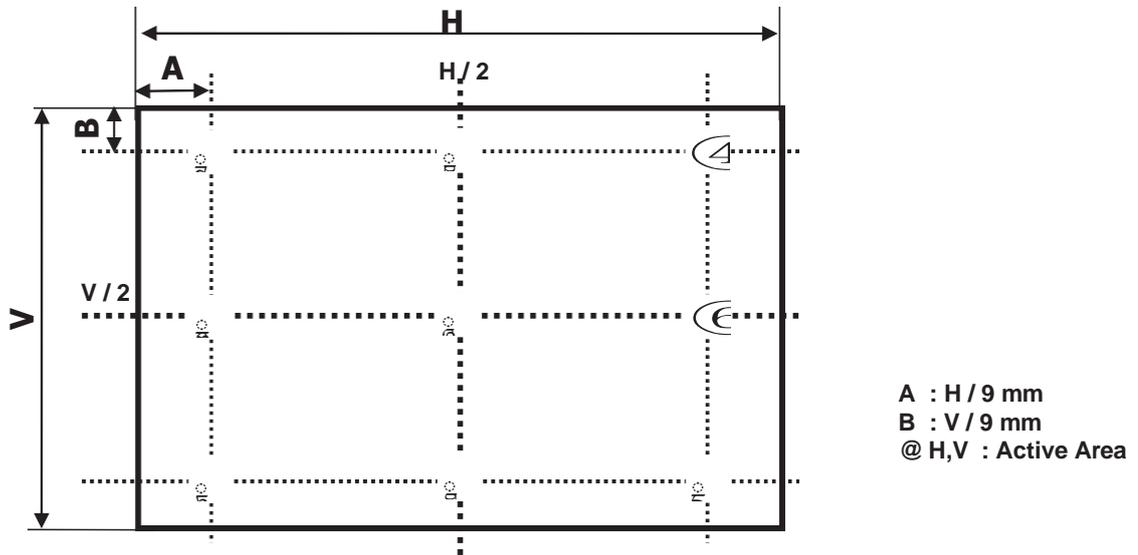

FIG. 2 9 Points for Luminance Measure
2. Surface luminance are determined after the unit has been 'ON' and 1 Hour after lighting the backlight in a dark environment at 25 ±2°C. Surface luminance is the luminance value at center 1-point across the LCD surface 50cm from the surface with all pixels displaying white. For more information see the FIG. 2.
Where L_{on1} to L_{on5} are the luminance with all pixels displaying white at 5 locations . For more information, see the FIG. 2.